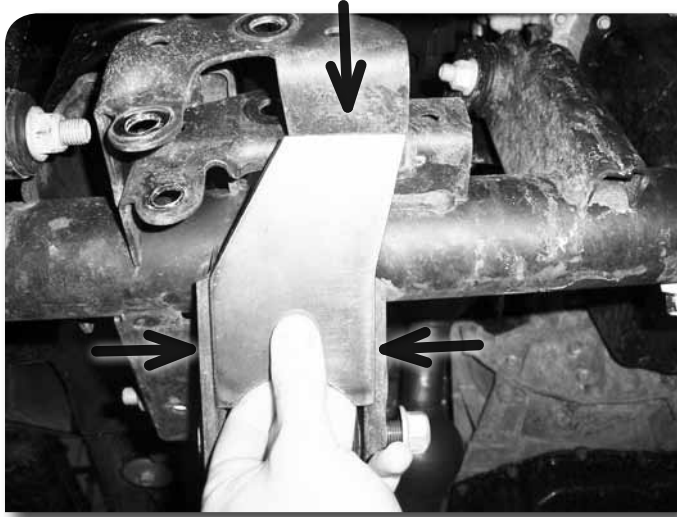

Figure 2
6. Position the provided lower flat gusset so that it spans the two passenger's lower control arm mounting plates and the narrow end butts up against the bottom side of the factory track bar mount. **Figure 2** Note the areas to be welded and remove the gusset.